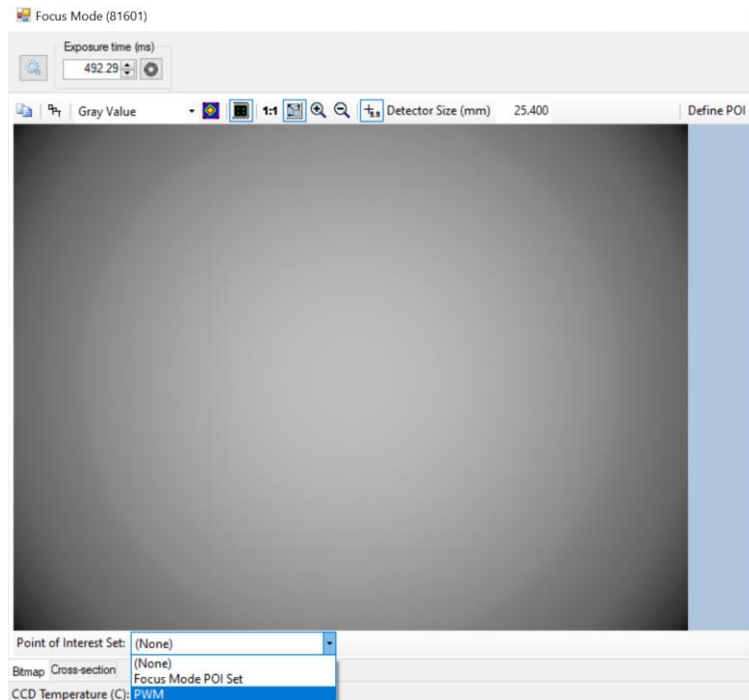

Figure 7 – Focus Mode Window.
5. Open Focus Mode. In the Focus Mode window, select the **Turn on/off Points of Interest** button, , then navigate to the bottom of the window and select the **PWM POI** (shown in Figure 7).